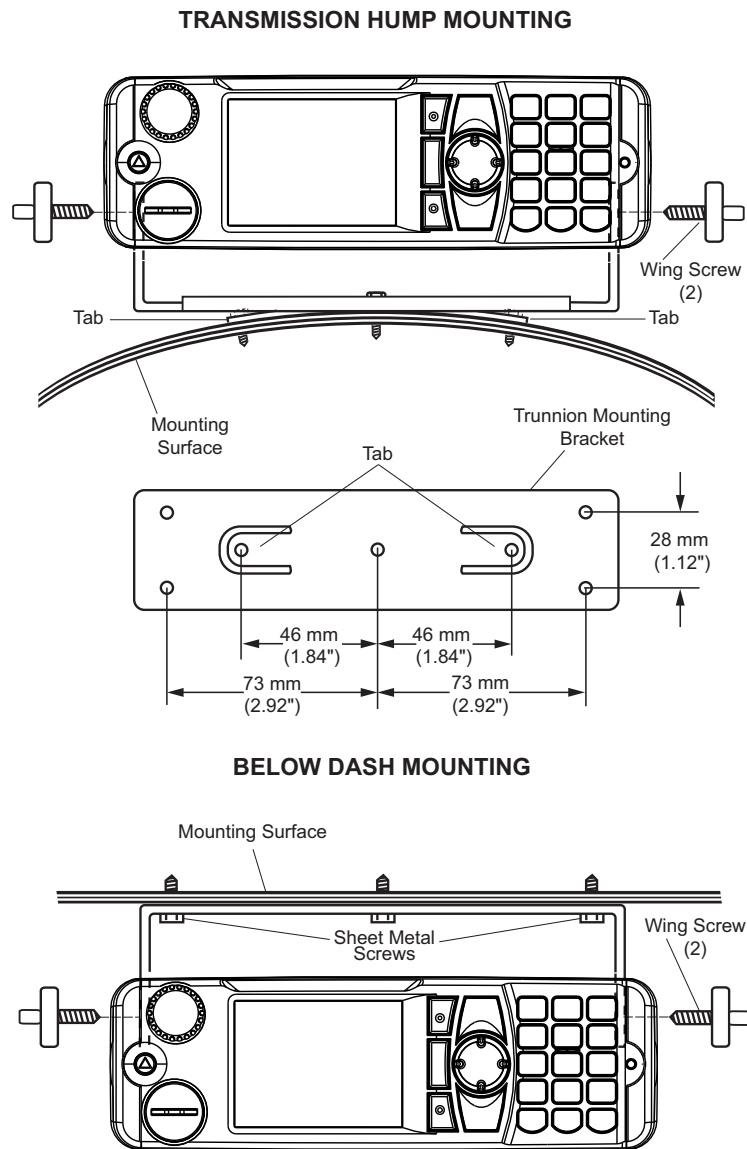

Figure 6 Transmission Hump Mounting (Top) and Below Dash Mounting (Bottom)
1. Select either the transmission hump or an open underneath portion of the dash to mount your terminal (see Figure 6). When mounting the trunnion on the transmission hump, be careful that the transmission housing is not affected.
4. Secure the trunnion mounting bracket to the mounting surface with the three self-tapping screws provided. (See Figure 6.)